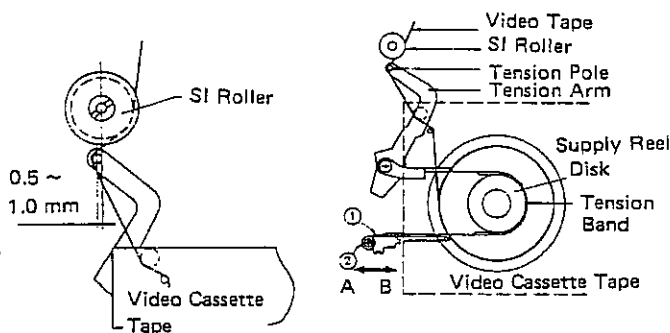

Figure 14
1. Where the position of the tension pole is less than 0.5 mm to the left of the center of the SI roller, move the tension band adjustment angle (1) in the direction of the arrow B in figure 14 and tighten the screw.
2. Where the position of the tension pole is more than 1 mm to the left of the center of the SI roller, move the tension band adjustment angle (1) in the direction of the arrow A in figure 14 and tighten the screw.